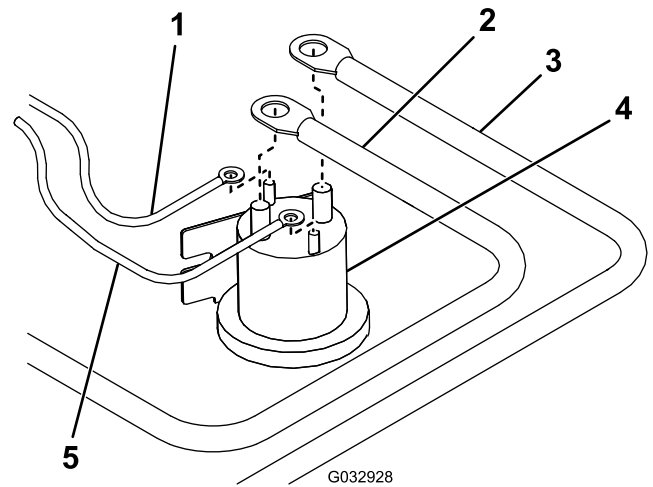

Figure 18
18. Connect the white/black wire from the wire harness to the small post on the pump solenoid (Figure 18).
19. Connect the brown wire from the wire harness to the other small post on the pump solenoid (Figure 18).
21. Connect the red power/ground cable to the large post on the pump solenoid (Figure 18).
22. Connect the battery cable to the other large post on the pump solenoid (Figure 18).